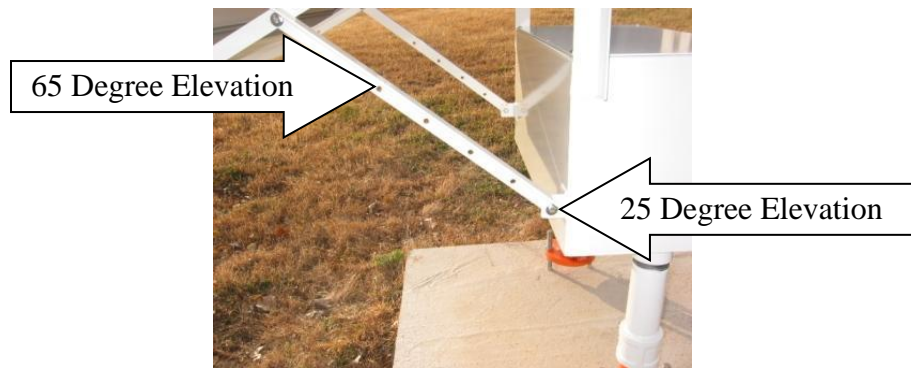

Figure 14. Solar Panel Angle Adjustment
1. Refer to Figure 14. A series of holes located in each of the two solar panel side brackets are used to select the solar panel angle. The 5 holes in each side bracket allow the elevation angle to be set to 25, 35, 45, 55 or 65 degrees above horizontal.